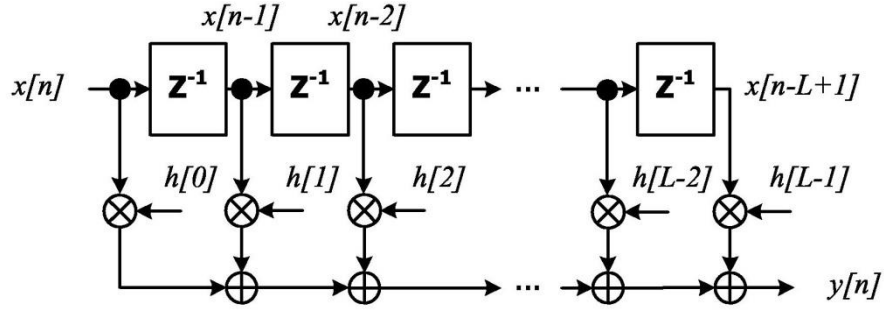

Fig. 1 FIR filter in direct form.
Generally speaking, the FIR filter can be implemented in two ways, namely direct form and transpose form. Direct form FIR filter is given in Fig. 1 based on Eq. (2). In the direct form architecture, there exists a long critical path consisting of a multiplier and several adders. Hence, it is not suitable for high-speed operation. However, all the register word-lengths are the same as that of the input.